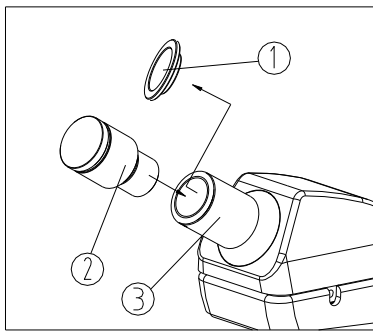

Fig. 4
1. Remove the cover from the eyepiece tube ①.
2. Insert the eyepiece ② into the eyepiece tube, until it is completely inserted.
3. Tighten eyepiece with M2.5 inner hexagon lock-screw ③ (see Fig.4).